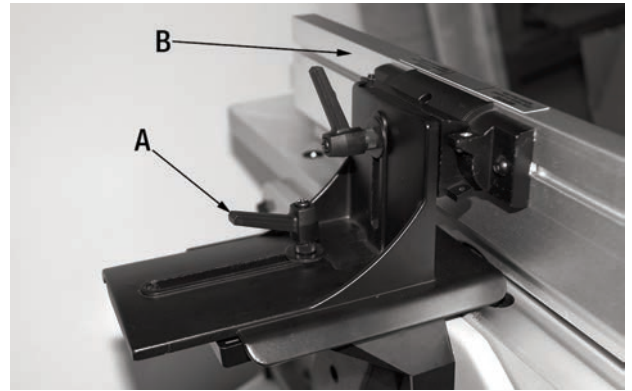

FIGURE 8
- 1) Loosen the fence adjustment lock handle (A) Fig.8 by turning handle counter-clockwise.
- 2) Manually adjust the fence (B) across the table to the desired position.
- 3) Retighten the fence adjustment lock handle (A) by turning handle clockwise. Make sure this is done before jointing the workpiece.